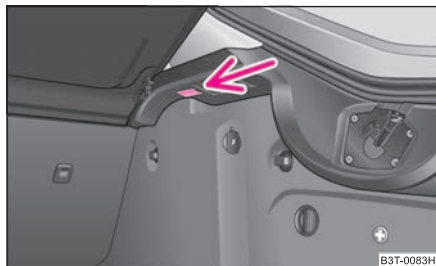

Fig. 227 Remove the luggage compartment light
- Insert a narrow screwdriver into the slot ⇒ **fig. 227** and carefully take out the light.